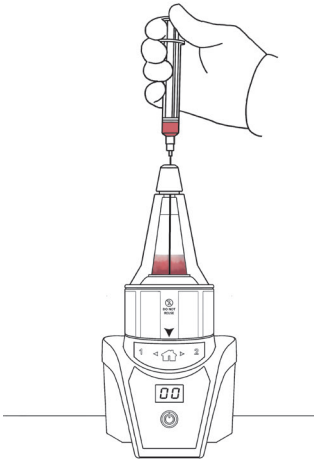

Figure 12
- Insert the cannula into the valve on top of the Disposable Unit until the tip of the cannula reaches the bottom center of the Disposable Unit's inner chamber (Figure 12).